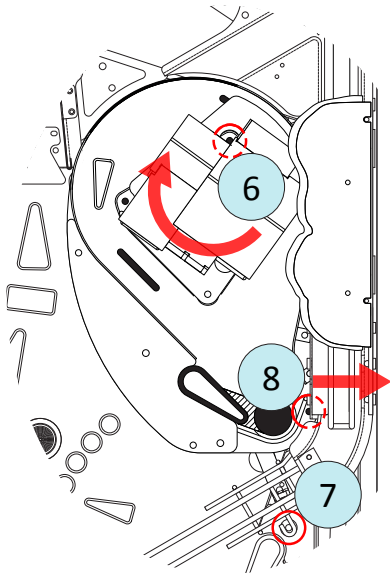

Figure E7. Munchkinland playfield removal, illustration 3.
6) Continue to manually rotate the house (CW) until the same open corner is aligned with the second of three screws holding the Munchkinland playfield down (as shown in figure E7). Using the same 1/4" nutdriver or Phillips screwdriver as in step 5 above, remove this screw. Again, a magnetic pickup tool can be used to help pull the screw out of its hole.
7) Using an 11/32" nutdriver, loosen the locknut holding the top end of the Emerald City exit wire ramp (circled in figure E7). Do not remove the locknut.
8) Flex the Emerald City plastic ramp (in the ball lock/Munchkin huts area) outward while removing the third of three screws holding the Munchkinland playfield down (circled in figure E7). Use the same 1/4" nutdriver or Phillips screwdriver as in steps 5 & 6 above.